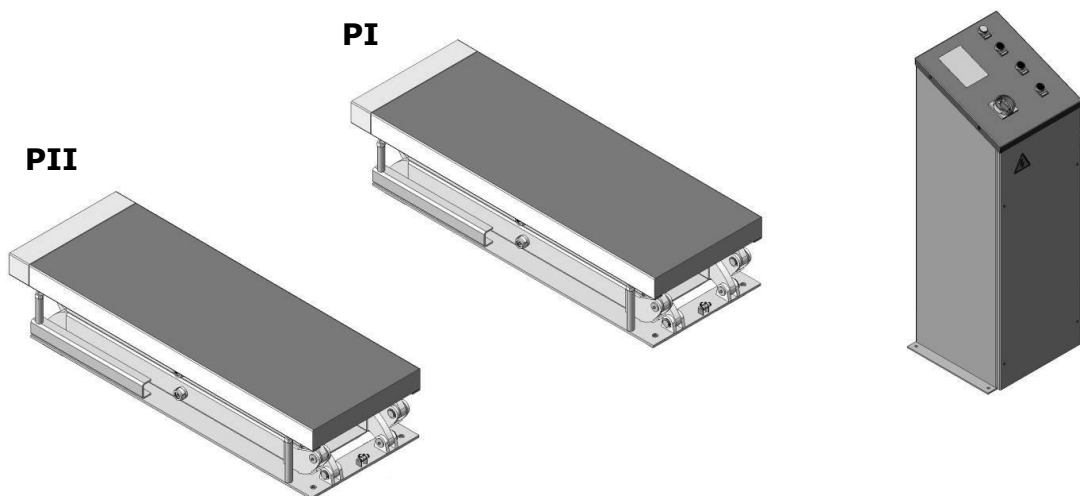

Fig. 8
1. Select a location and layout the equipment according to steps B (See Fig. 8).